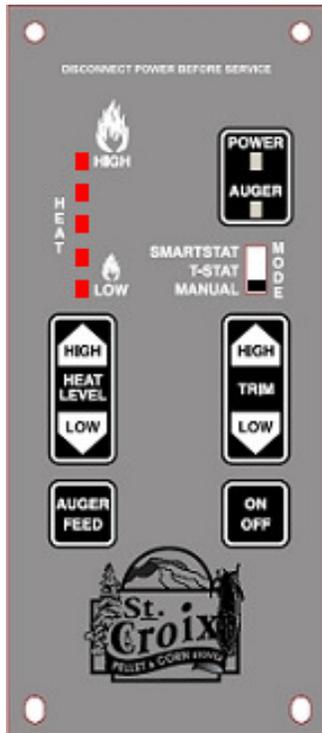

Figure 3
3 - **Program 3.** The Cycle Time is 11.5 seconds. **THIS PROGRAM IS THE DEFAULT PROGRAM FOR USE WITH THE HASTINGS.** This program is for use with **Pellets, Cherry Pits and a 50/50 Percent Mixture of Pellets and Corn (See fig. 3 on page 8).** **(DO NOT USE THIS PROGRAM WITH OUR GRAIN BURNING MODELS).**
4 - **Program 4.** The Cycle Time is 10 seconds. **THIS PROGRAM IS ONLY FOR USE WITH THE CHERRY PITS. (See fig. 3 on page 8).** **(DO NOT USE THIS PROGRAM WITH OUR GRAIN BURNING MODELS).**
To change the Program the Stove must be in the OFF position, the unit must be completely cooled down so the Proof of Fire Switch is Open and the Thermostat slide switch must be in the Manual mode. (See figure 3)
2. Push the On/Off button on the control board. (See figure 3)